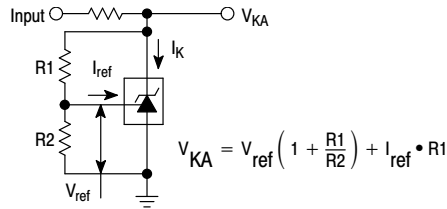

Figure 2. Test Circuit for  $V_{KA} > V_{ref}$
| Ratio of Change in Reference Input Voltage to Change in Cathode to Anode VoltageI K = 10 mA (Figure 2),ΔV KA = 10 V to V refΔV KA = 36 V to 10 V | $\frac{\Delta V_{ref}}{\Delta V_{KA}}$ | ––       | –1.4–1.0 | –2.7–2.0 | ––        | –1.4–1.0 | –2.7–2.0  | mV/V |
| Reference Input Current (Figure 2)I K = 10 mA, R1 = 10 k, R2 = ∞T A = 25°CT A = T low to T high (Note 1)                              | I ref                       | ––       | 1.8–     | 4.06.5   | ––        | 1.8–     | 4.05.2    | μA   |
| Reference Input Current Deviation Over Temperature Range (Figure 2, Note 1, 4)I K = 10 mA, R1 = 10 k, R2 = ∞                                                                              | ΔI ref                      | –            | 0.8          | 2.5          | –             | 0.4          | 1.2           | μA   |
3. The dynamic impedance ZKA is defined as:  $|Z_{KA}| = \frac{\Delta V_{KA}}{\Delta I_K}$ . When the device is programmed with two external resistors, R1 and R2, (refer to Figure 2) the total dynamic impedance of the circuit is defined as:  $|Z_{KA}'| \approx |Z_{KA}| \left( 1 + \frac{R1}{R2} \right)$
| Ratio of Change in Reference Input Voltage toChange in Cathode to Anode VoltageI K = 10 mA (Figure 2),ΔV KA = 10 V to V refΔV KA = 36 V to 10 V | $\frac{\Delta V_{ref}}{\Delta V_{KA}}$ | ––             | –1.4–1.0 | –2.7–2.0 | ––        | –1.4–1.0 | –2.7–2.0  | ––                                       | –1.4–1.0   | –2.7–2.0   | mV/V |
| Reference Input Current (Figure 2)I K = 10 mA, R1 = 10 k, R2 = ∞T A = 25°CT A = T low to T high (Note 4)                                 | I ref                       | ––             | 1.8–     | 4.06.5   | ––        | 1.8–     | 4.05.2    | ––                                       | 1.1–       | 2.04.0     | μA   |
| Reference Input Current Deviation OverTemperature Range (Figure 2, Note 4)I K = 10 mA, R1 = 10 k, R2 = ∞                                                                                 | ΔI ref                      | –                  | 0.8          | 2.5          | –             | 0.4          | 1.2           | –                                            | 0.8            | 2.5            | μA   |
6. The dynamic impedance ZKA is defined as  $|Z_{KA}| = \frac{\Delta V_{KA}}{\Delta I_K}$ . When the device is programmed with two external resistors, R1 and R2, (refer to Figure 2) the total dynamic impedance of the circuit is defined as:  $|Z_{KA}'| \approx |Z_{KA}| \left( 1 + \frac{R1}{R2} \right)$